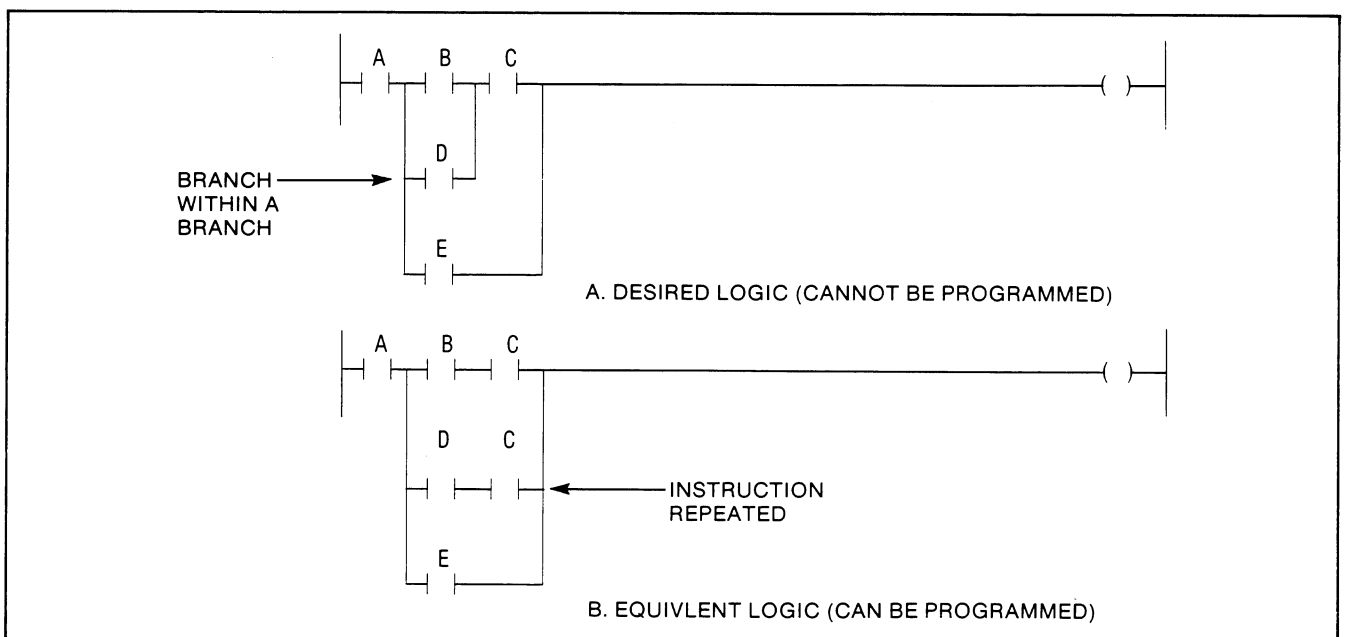

FIGURE 3-10 — Nested Branching vs. Proper Programming
Branch instructions must be entered in the correct order for proper logic function. The only limitation is that a “nested” branch (a branch within a branch) cannot be programmed directly (Figure 3-10). A total of seven (7) branches can be programmed in one rung and properly displayed on the Industrial Terminal.